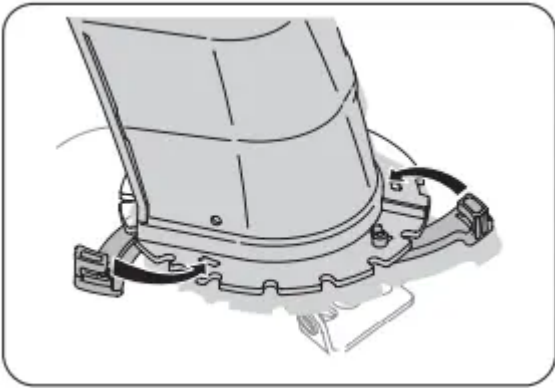

Figure 10
- Close flange keepers to secure chute assembly to chute base. Flange keepers will click into place when properly secure. See “Figure 10”10.